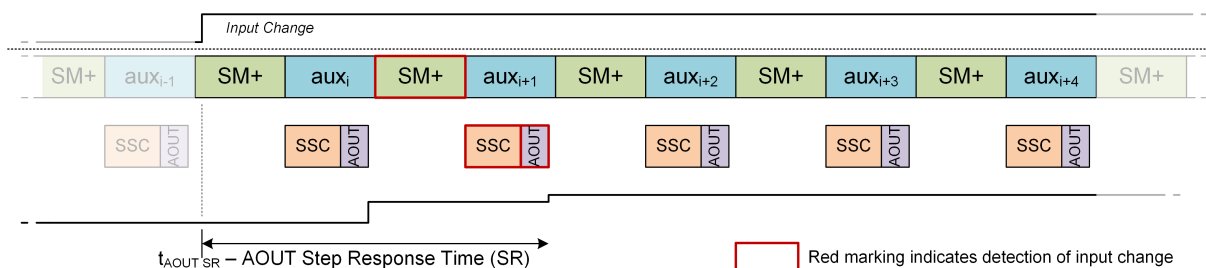

Figure 27: Measurement Flow and Latency for SM+/AZ Configuration
As shown in Figure 27, the worst-case latency consists of:
- SM+/AZ configuration: refer to Figure 27 and description for step response in subsection 4.7.4